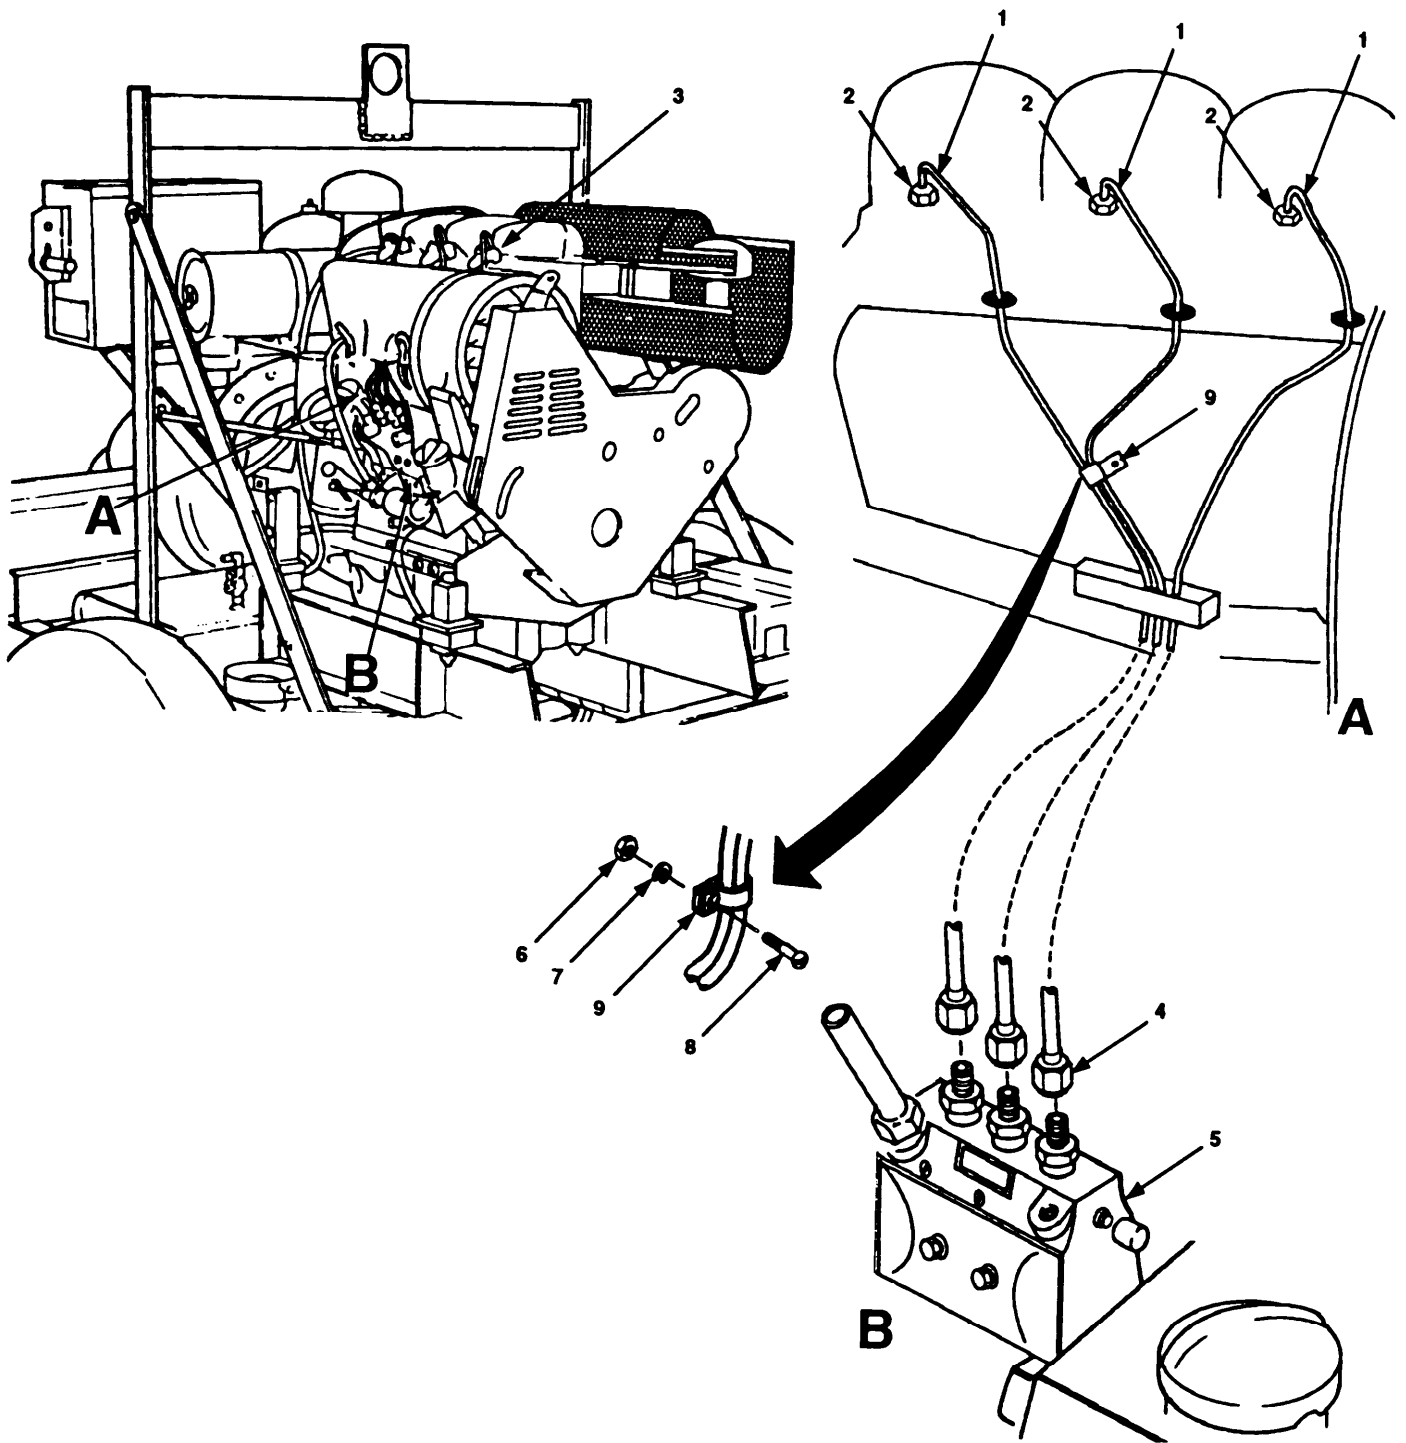

Figure 4-25. High Pressure Fuel Lines.
## i. Remove high pressure fuel lines (figure 4-25, 1) as follows:
- a. Install high pressure fuel lines (figure 4-25, 1) as follows:
- (1) Position high pressure fuel lines (1) on engine.
- (2) Install clamp (9), bolt (8), lockwasher (7) and nut (6) .
- (3) Install three nuts (4) on fuel injection pump (5).
- (4) Install three nuts (2) on fuel injection nozzles (3) and remove tags.